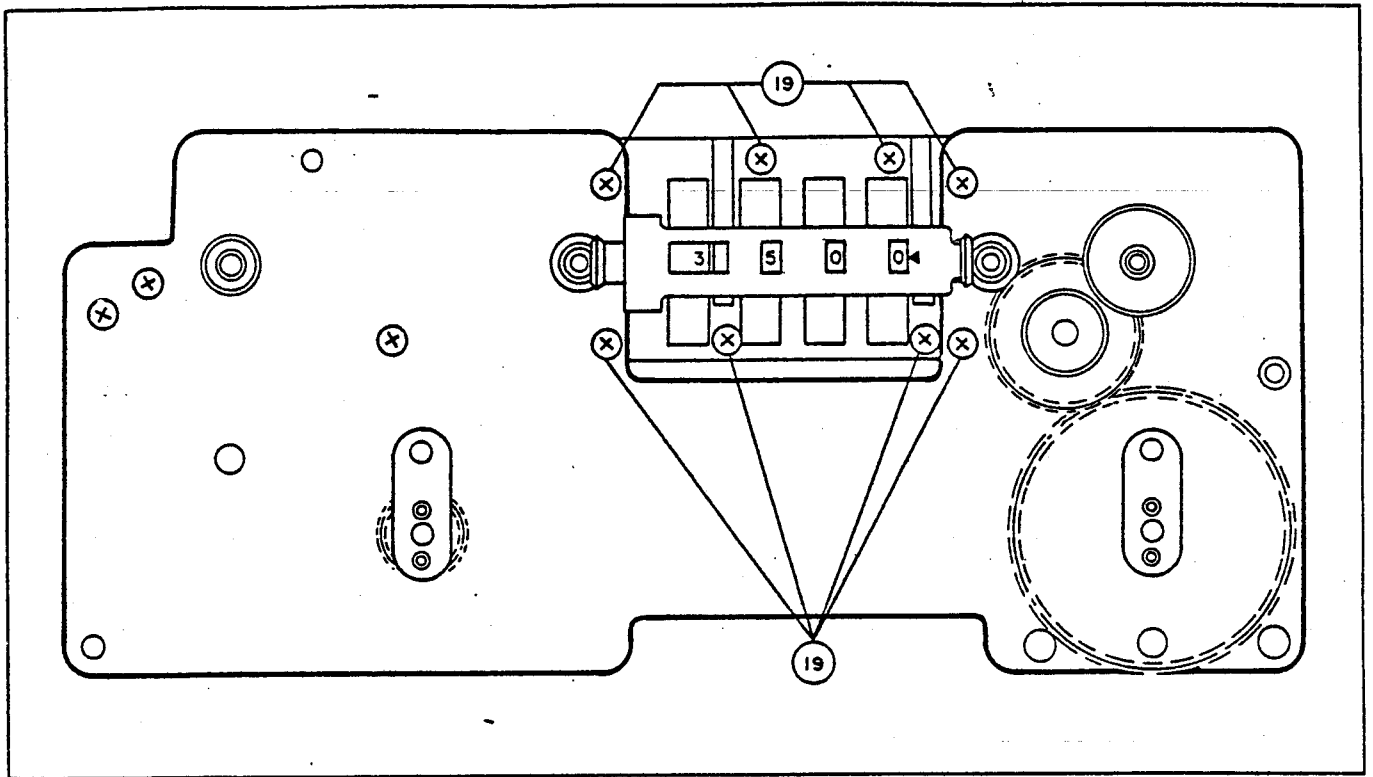

Figure 3-8. R-F and I-F Tuner Assembly, Front Plate, Front View
- e. Remove the eight screws securing the MEGACYCLES frequency indicator to the front plate (item 19, figure 3-8).
- b. Mount the MEGACYCLES frequency indicator on its plate and on the r-f and i-f tuner assembly front plate with 8 screws. (See figure 3-8, item 19.)